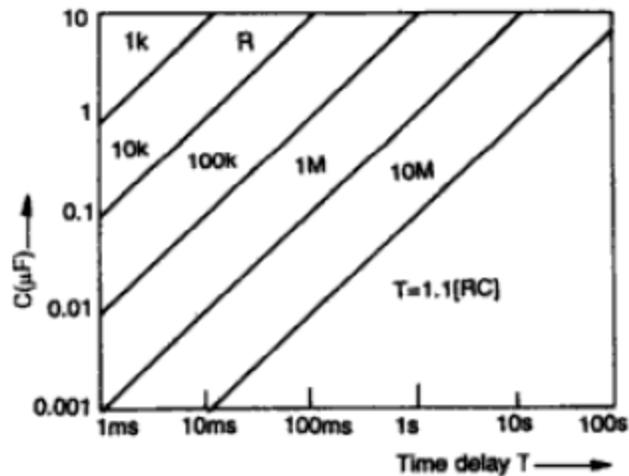

Figure 6: Graph of RC combinations for different time delays
- Fig. 6 shows a graph of the various combinations of R and C necessary to produce a given time delay.